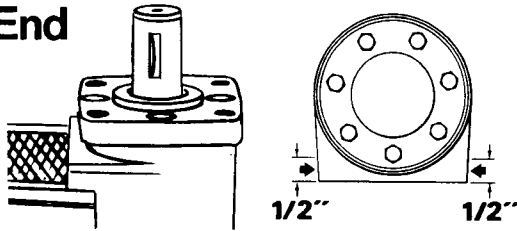

Figure 6
12 Reposition motor in vise. Clamp across ports as shown in Fig. 6, not on sides of housing. Excessive clamping pressure on side of housing causes distortion.
**Attention:** Shaft could drop from housing when clamped as shown in Fig. 6. Tilt bottom of housing toward vise throat or place something against bottom of housing to retain shaft.
**37** Clamp motor in vise as outlined in step 12 and Fig. 6, then install dry screws and alternately torque immediately to 250 inch pounds. If you use primer, allow to cure for 10-15 minutes, without primer, allow 6 hours before subjecting motor to high torque reversals. On all other applications you can run the motor immediately. If you use new bolts, make sure they are the correct length, 7/8" under head length, (see parts list for correct part number). Longer screws will not permit proper seal between the flange and housing.